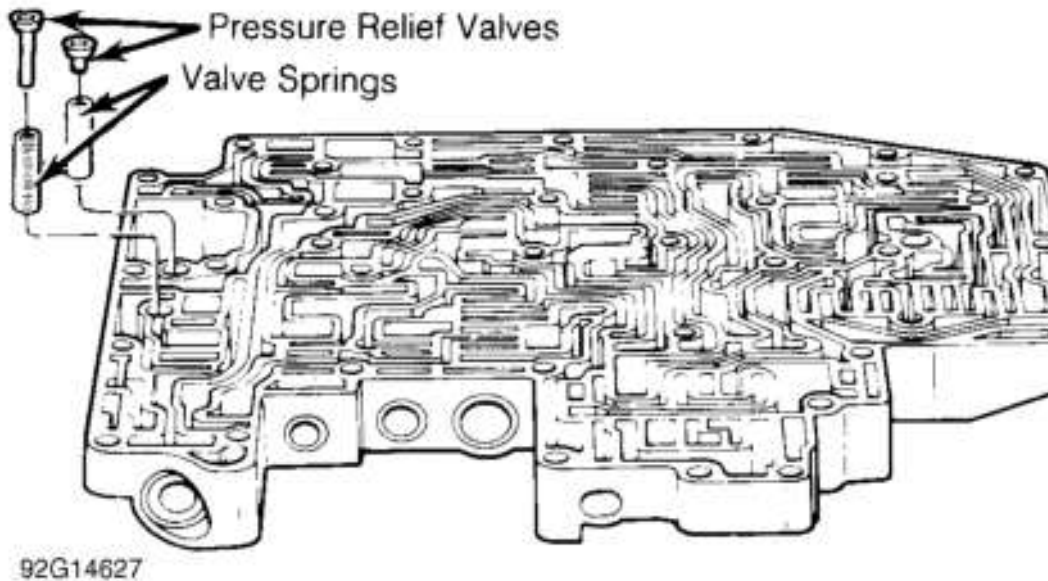

Fig. 44: Installing Pressure Relief Valves
3. Remove retaining plates, valves and springs. Keep all valves and springs in original order for reassembly reference. See Fig. 44 .